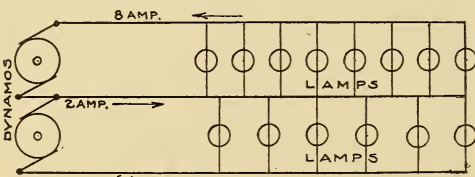

FIG. 3. THREE-WIRE CIRCUIT.
(E) The three wire system of distribution is merely a method of saving copper in the line by allowing a higher voltage. Where 110 volt lamps are used, the difference of potential between the two outer wires would be 220 volts. If an equal number of lamps were connected on each side of the circuit, it would be balanced, and no current would flow in the center or neutral wire. The illustration, Fig. 3, shows eight lamps on one side and six on the other. In this case, if each lamp took one ampere, only two amperes will flow in the center wire. Obviously if the circuit can be nearly balanced the center wire may be smaller than the others—one-half the size, in practice. In a building such as you mention, the two apartments will probably balance each other, allowing one wire for each, and a common neutral wire.